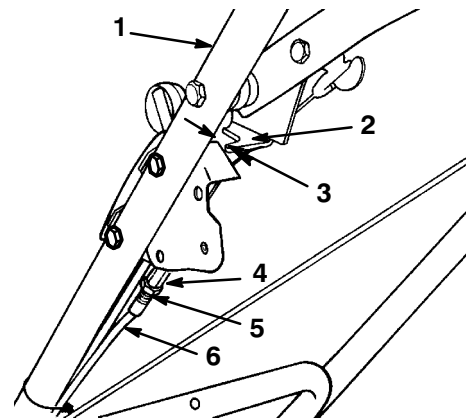

Figure 33
- Loosen the jam nut on the brake cable (Fig. 33).